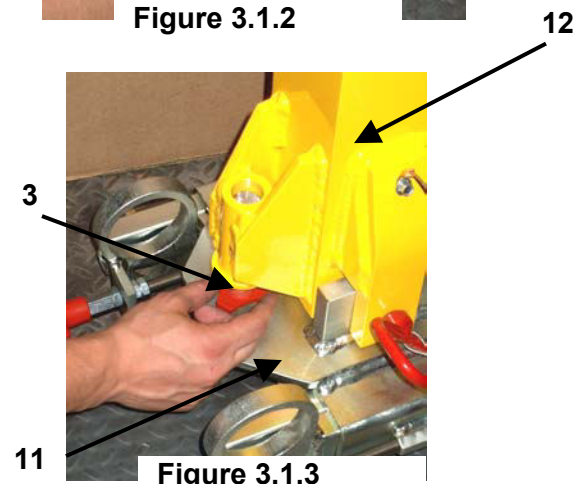

Figure 3.1.3
Step 5: The Portable 14' Fall-Arrest Post (Fig. 3.1.1) must be in a vertical position at all times when it is being used as a Fall-Arrest anchor point. Depending on the type of base you are using the Post may be leveled by using the adjuster screws (3) the base plate (11) or a combination of these, shown in Figure 3.1.3. The adjuster screws are alternately loosened and tightened to level the Post.